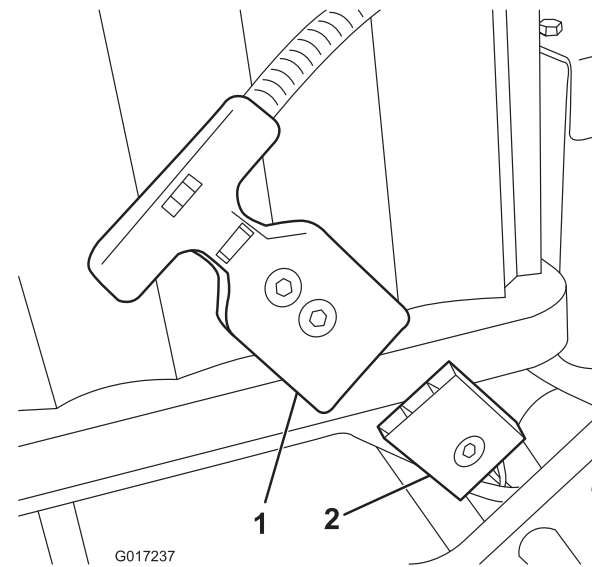

Figure 15
Note: If you cannot mate the battery pack receptacle with the machine wiring harness plug while the battery pack is installed, you can instead connect the harness to the battery pack and then install the battery pack. Remove the main power supply connector (Figure 15) from the battery base. Install the connector to the battery as described. Install the battery to the base, threading the attached wiring harness through the appropriate hole, and then secure the main power supply connector to the battery base using the fasteners previously removed.
- Connect the T-handle connector from the main wiring harness to the main power supply connector on the battery base (Figure 15).